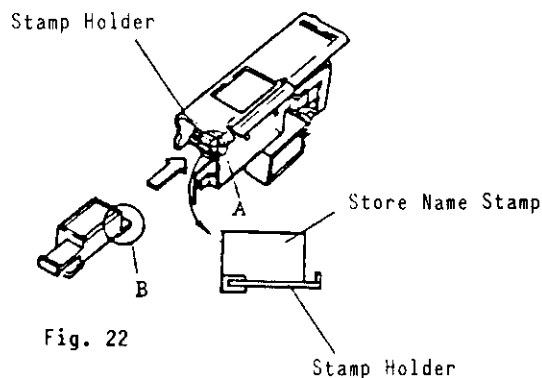

Fig. 22
6. Re-assembly is the reverse procedure. (Fig. 22) Let Point "B" of the Stamp fit to Point "A" of the Stamp Holder, push the stamp all the way in until a "click" is heard.